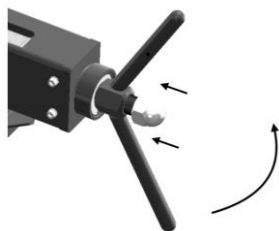

Fig. 6
6. Once the desired bend has been achieved, release the workpiece by turning the handle counterclockwise and pushing the lead screw in (Fig. 6).